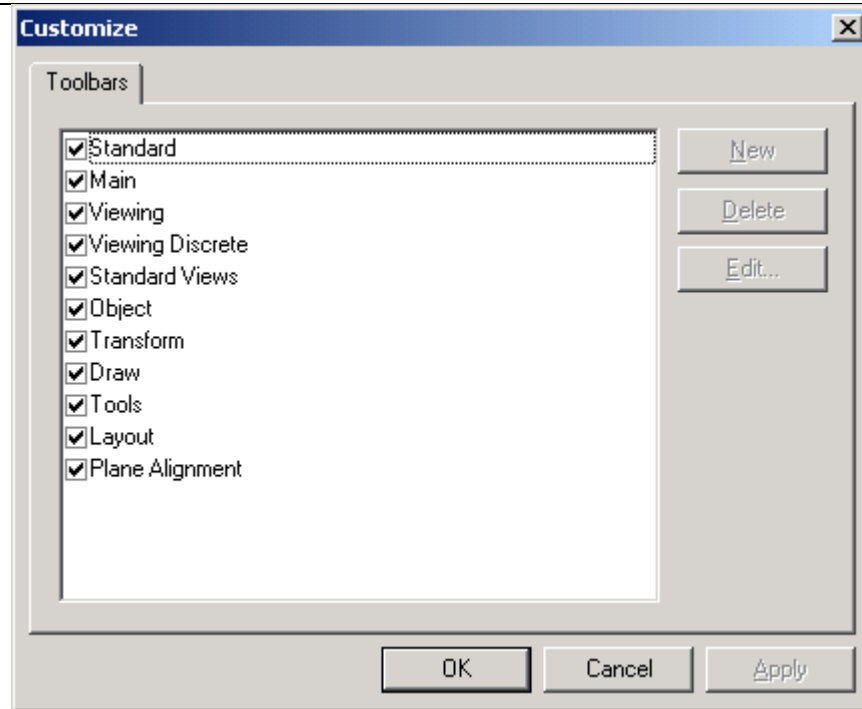

Figure 8: Toolbar selection checklist
- Select View>Toolbars to display the checklist in Figure 8.